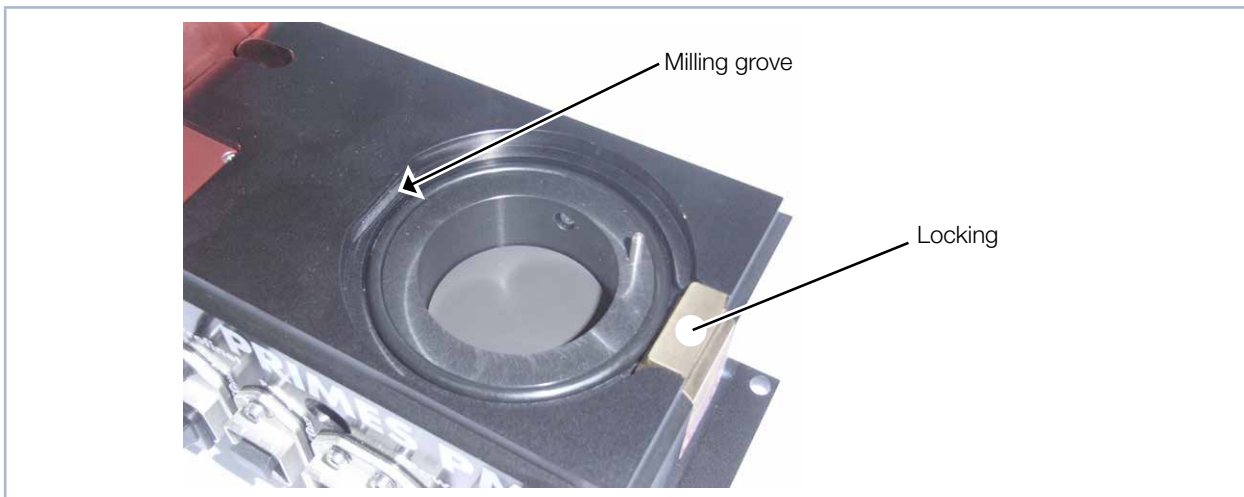

Fig. 15.4: Depiction of the exchangeable cassette
1. Fit the new exchangeable cassette in the milling groove (with the gasket pointing upwards), see Fig. 15.4 on page 69.